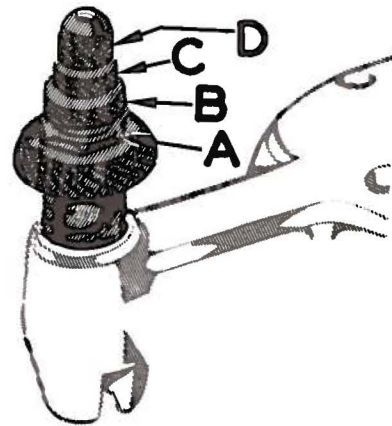

Fig. 2
Sufficient pressure to feed work uniformly should be maintained. Should it be necessary to increase or decrease amount of pressure on presser foot, loosen lock nut (A, Fig. 2) and turn adjusting screw (B). Adjusting screw has a right hand thread; so tightening increases pressure, loosening decreases pressure. When pressure adjusting screw (B) has been properly set, tighten lock nut (A). With presser foot resting on throat plate, position locking nut (C) so that its under surface is approximately  $1/32$  inch to  $1/16$  inch from the top surface of adjusting screw (B). Set cap (D) against locking nut (C).